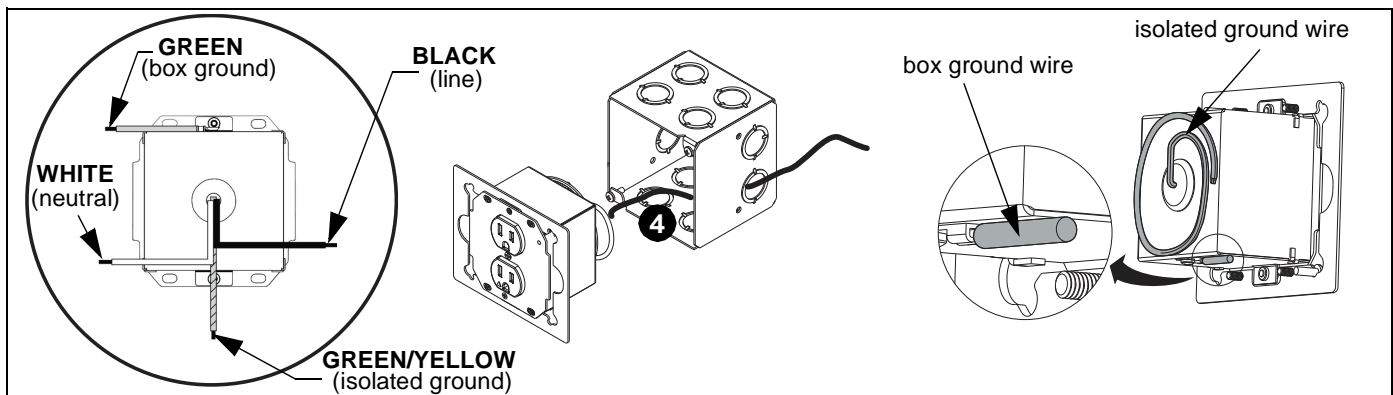

Figure 3
4. Wire the EGX-SF2 outlet box as required. Refer to tables to the right for input and output specifications. (See Figure 3)